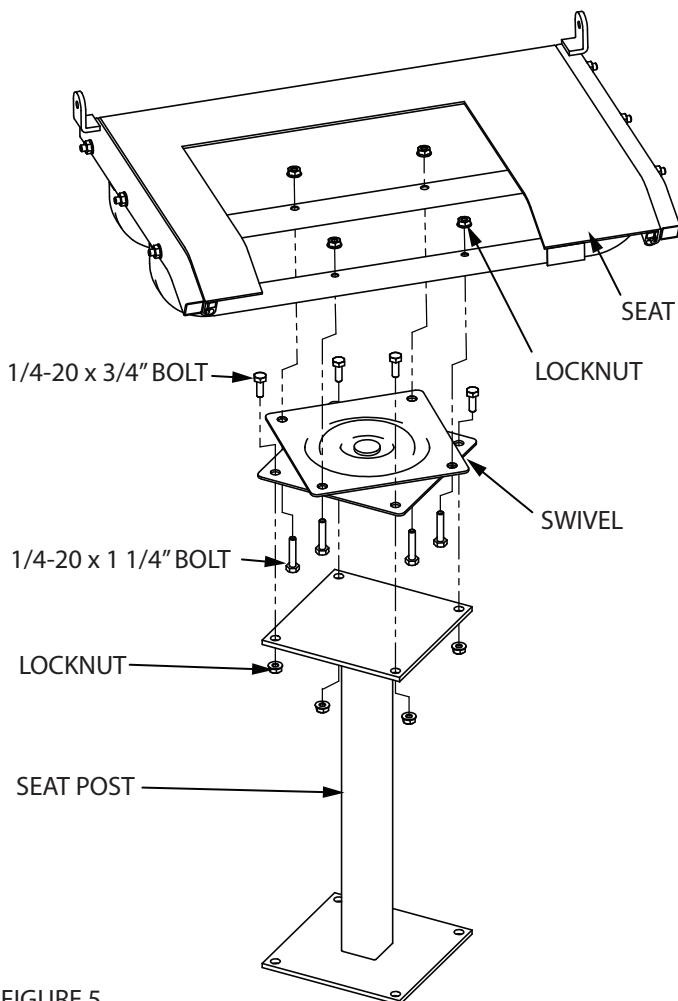

FIGURE 5
5. Attach swivel (48662) to top of seat post (TP11) using (4) provided 1/4-20 x 3/4" bolts and locknuts. **SEE FIGURE 5**
6. Attach factory assembled seat (16857) to the swivel using (4) provided 1/4-20 x 1-1/4" bolts and locknuts. **SEE FIGURE 5**